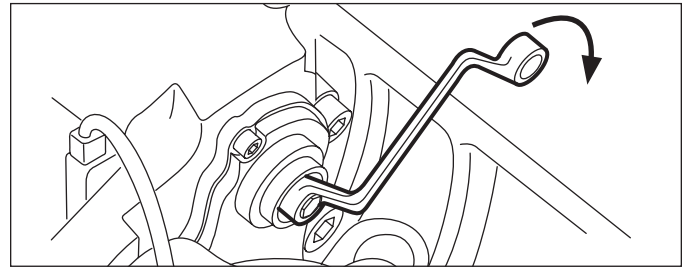

Figure 21 – Applying Moderate Applications of the Brakes: The Wrench Moves Clockwise as the Running Clearance is Diminished
3.2.3 Where the adjuster mechanism is able to be backed off normally, position a box-end wrench on the shear adapter so that it can turn freely clockwise without coming into contact with parts of the vehicle (See *Figure 21*). Make five to ten moderate applications of the brakes [at about 30 psi (2 Bar)], and observe that the box-end wrench or socket should turn clockwise in small increments.